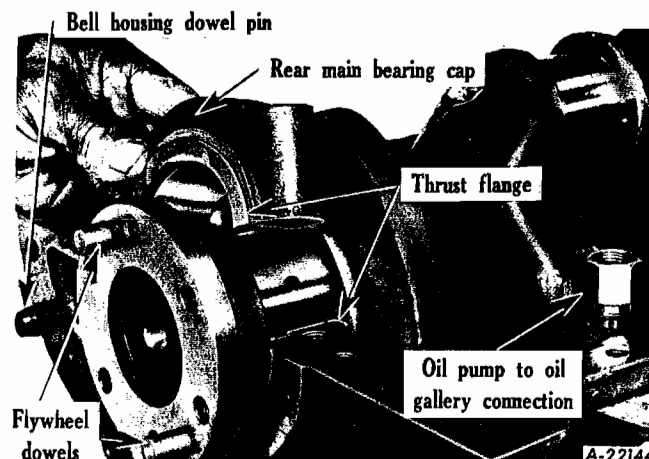

Fig. 21
5. The crankshaft bearing caps are numbered to identify their position and they must be reinstalled in their respective positions. Remove self-locking cap screws from each bearing cap. Remove all crankshaft main bearing caps (Fig. 21). After all caps have been removed, lift crankshaft straight up and out of cylinder block, and place in a vise equipped with soft jaws.